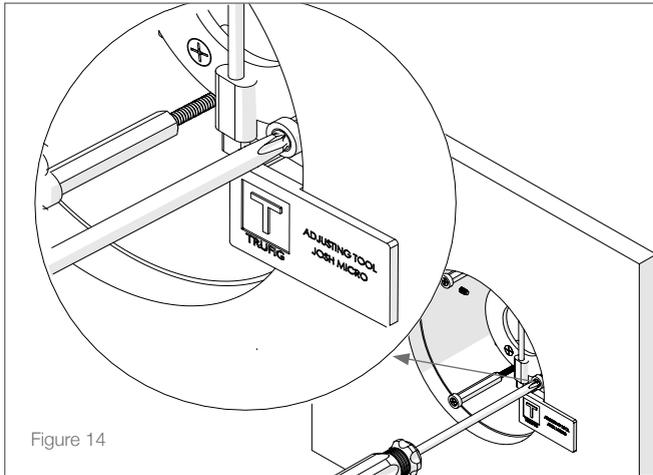

Figure 14
2. Use the adjusting tool to set the magnets to the proper height (see Figure 14).